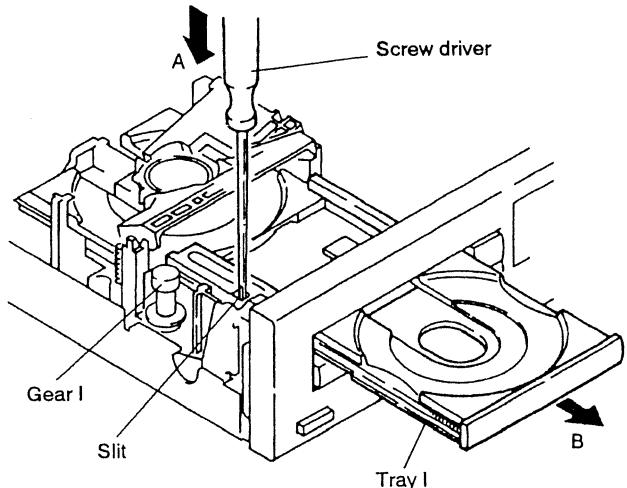

Fig. 3
(2) As shown in Fig. 3 insert a screw driver to the left slit of the tray I and pull out the tray in the direction of the arrow B, while the screw driver keeping to press in the direction of the arrow A.
(2) As shown in Fig. 3, insert a screw driver to the right slit of the tray II and pull out the tray in the direction of the arrow B, while the screw driver keeping to press in the direction of the arrow A.